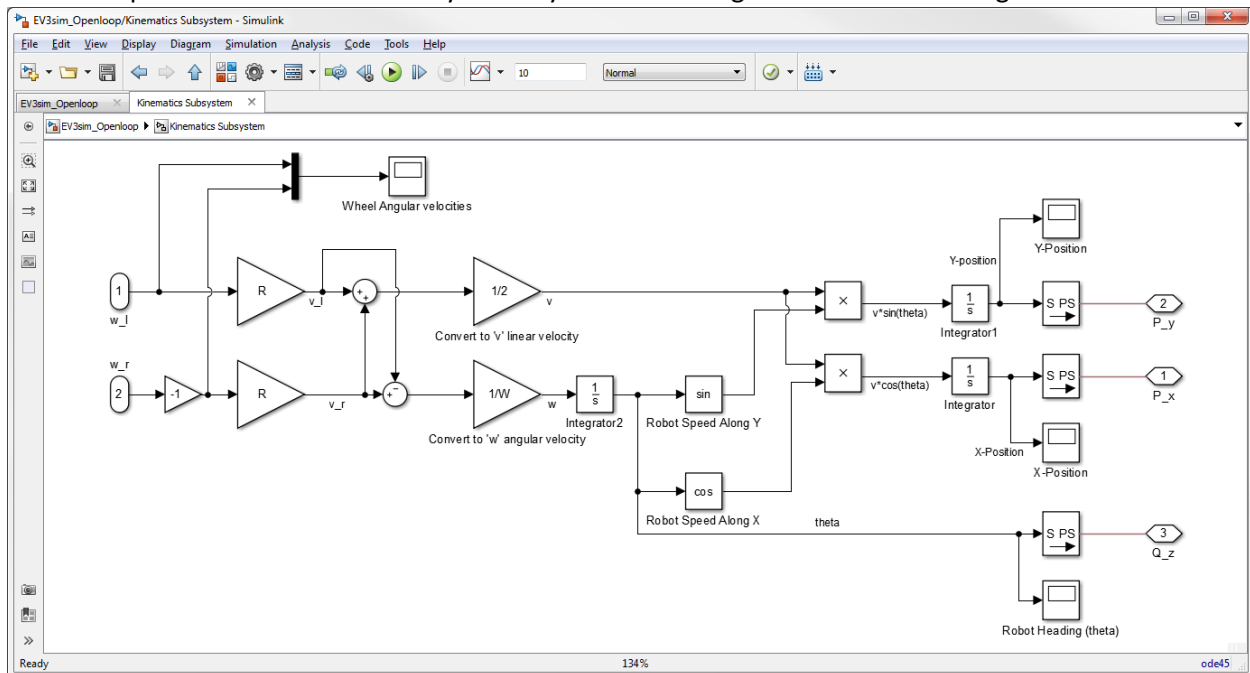

Figure 33 – Kinematics of a Differential Drive Robot
2. Explore the 'Kinematics Subsystem' by double clicking it. This is shown in Figure 33.